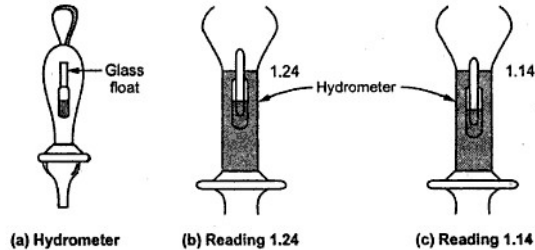

Fig. 1.26 Testing lead acid battery
1. **Using hydrometer :** The testing basically involves the checking of specific gravity of the sulphuric acid. It can be checked by the use of hydrometer. The hydrometer consists of a glass float with a calibrated stem placed in a syringe. The readings on hydrometer are shown in the Fig. 1.26.